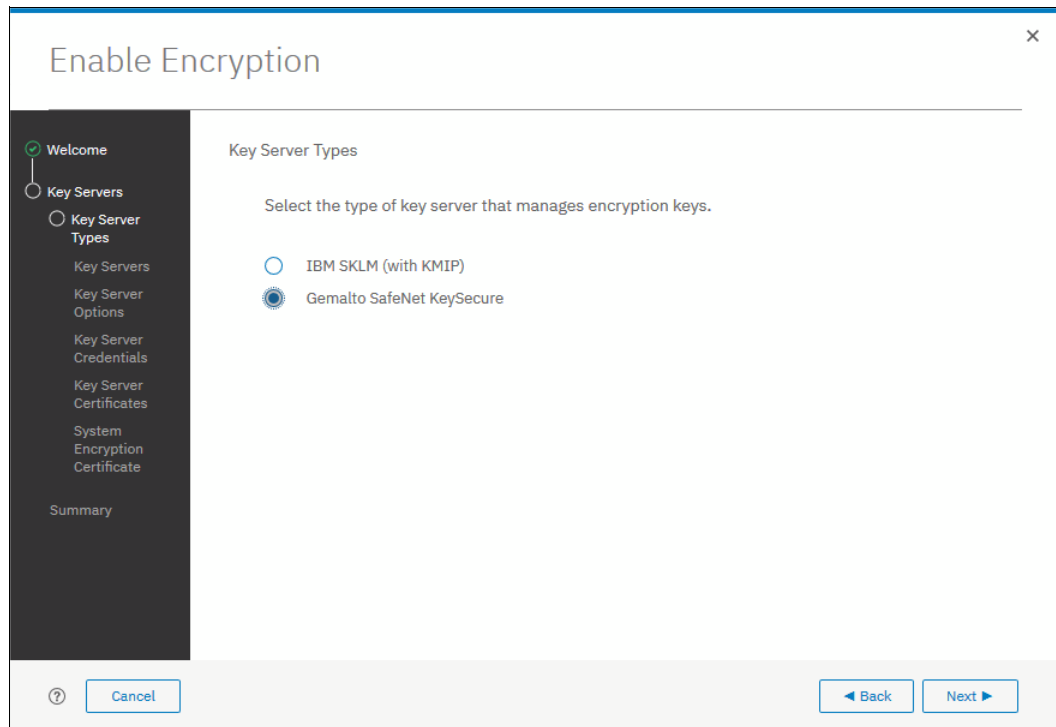

Figure 13-42 Selecting Gemalto SafeNet KeySecure as key server type
3. In the next window, you can choose between IBM SKLM or Gemalto SafeNet KeySecure server types, as shown in Figure 13-42. Select **Gemalto SafeNet KeySecure** and click **Next**.